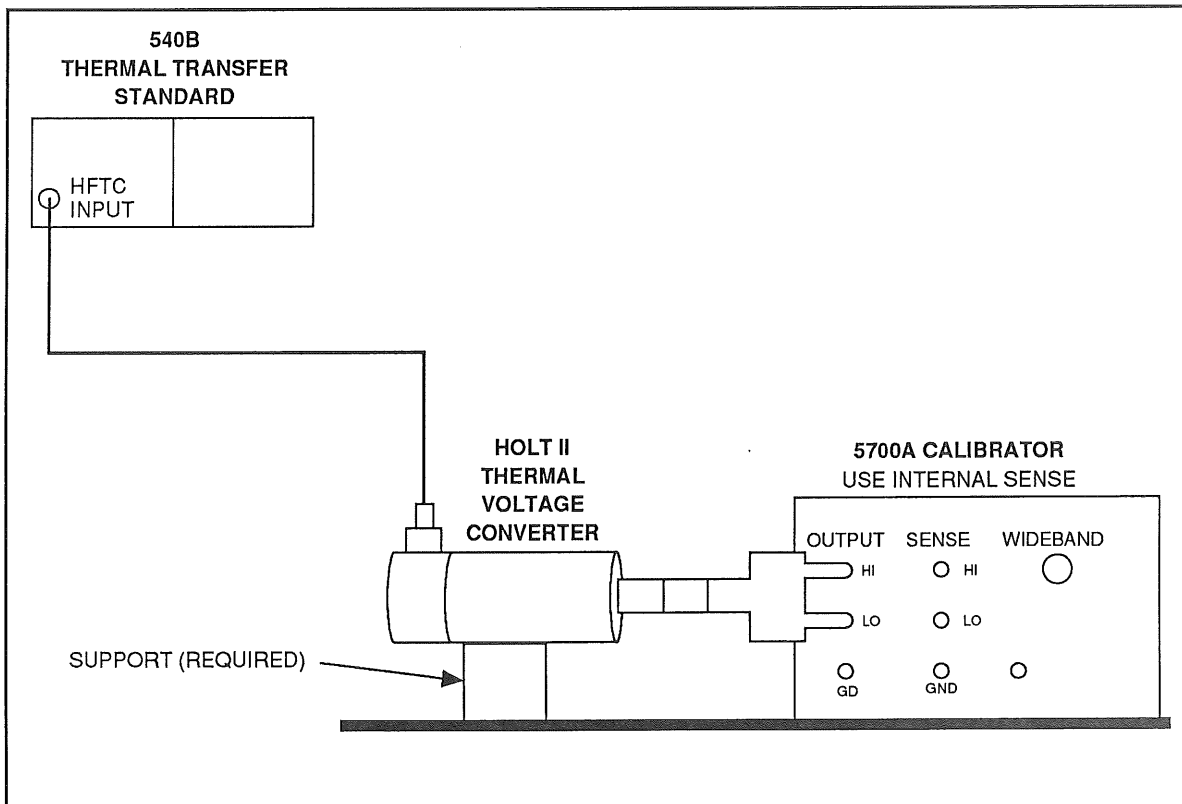

Figure 3-7. AC Voltage Verification
2. Connect the equipment as shown in Figure 3-7. To protect the Holt 11 from over voltage, set the limits on the 5700A to +2.002V and -2.002V.